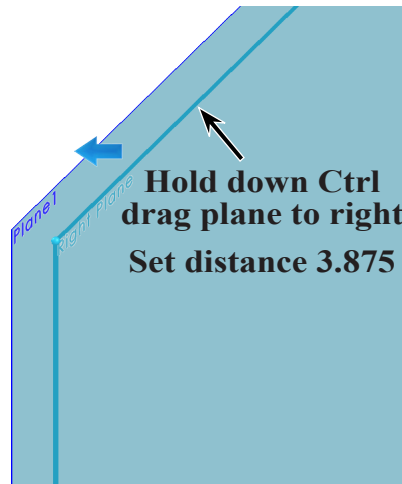

Fig. 2
Step 3. In graphics area **Ctrl drag Right plane** to right hand side of the vehicle (passenger's side) and release, **Fig. 2**.
The new plane should be right hand side of vehicle (passenger's side) of Right plane, **Fig. 2**.